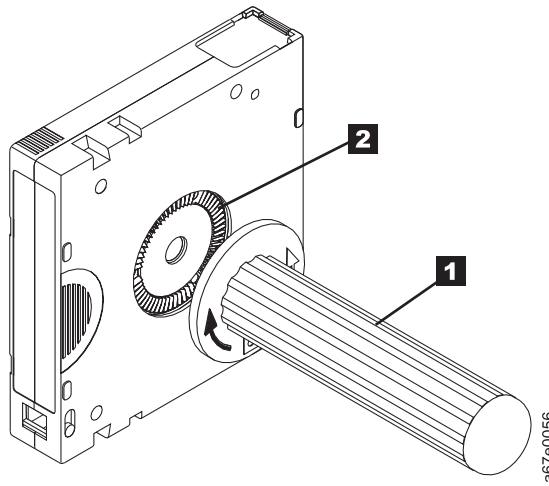

Figure 145. Rewinding the tape into the cartridge
5. To rewind the tape, insert the cartridge manual rewind tool (**1** in Figure 145) into the cartridge's hub (**2**) and turn it clockwise until the tape becomes taut.